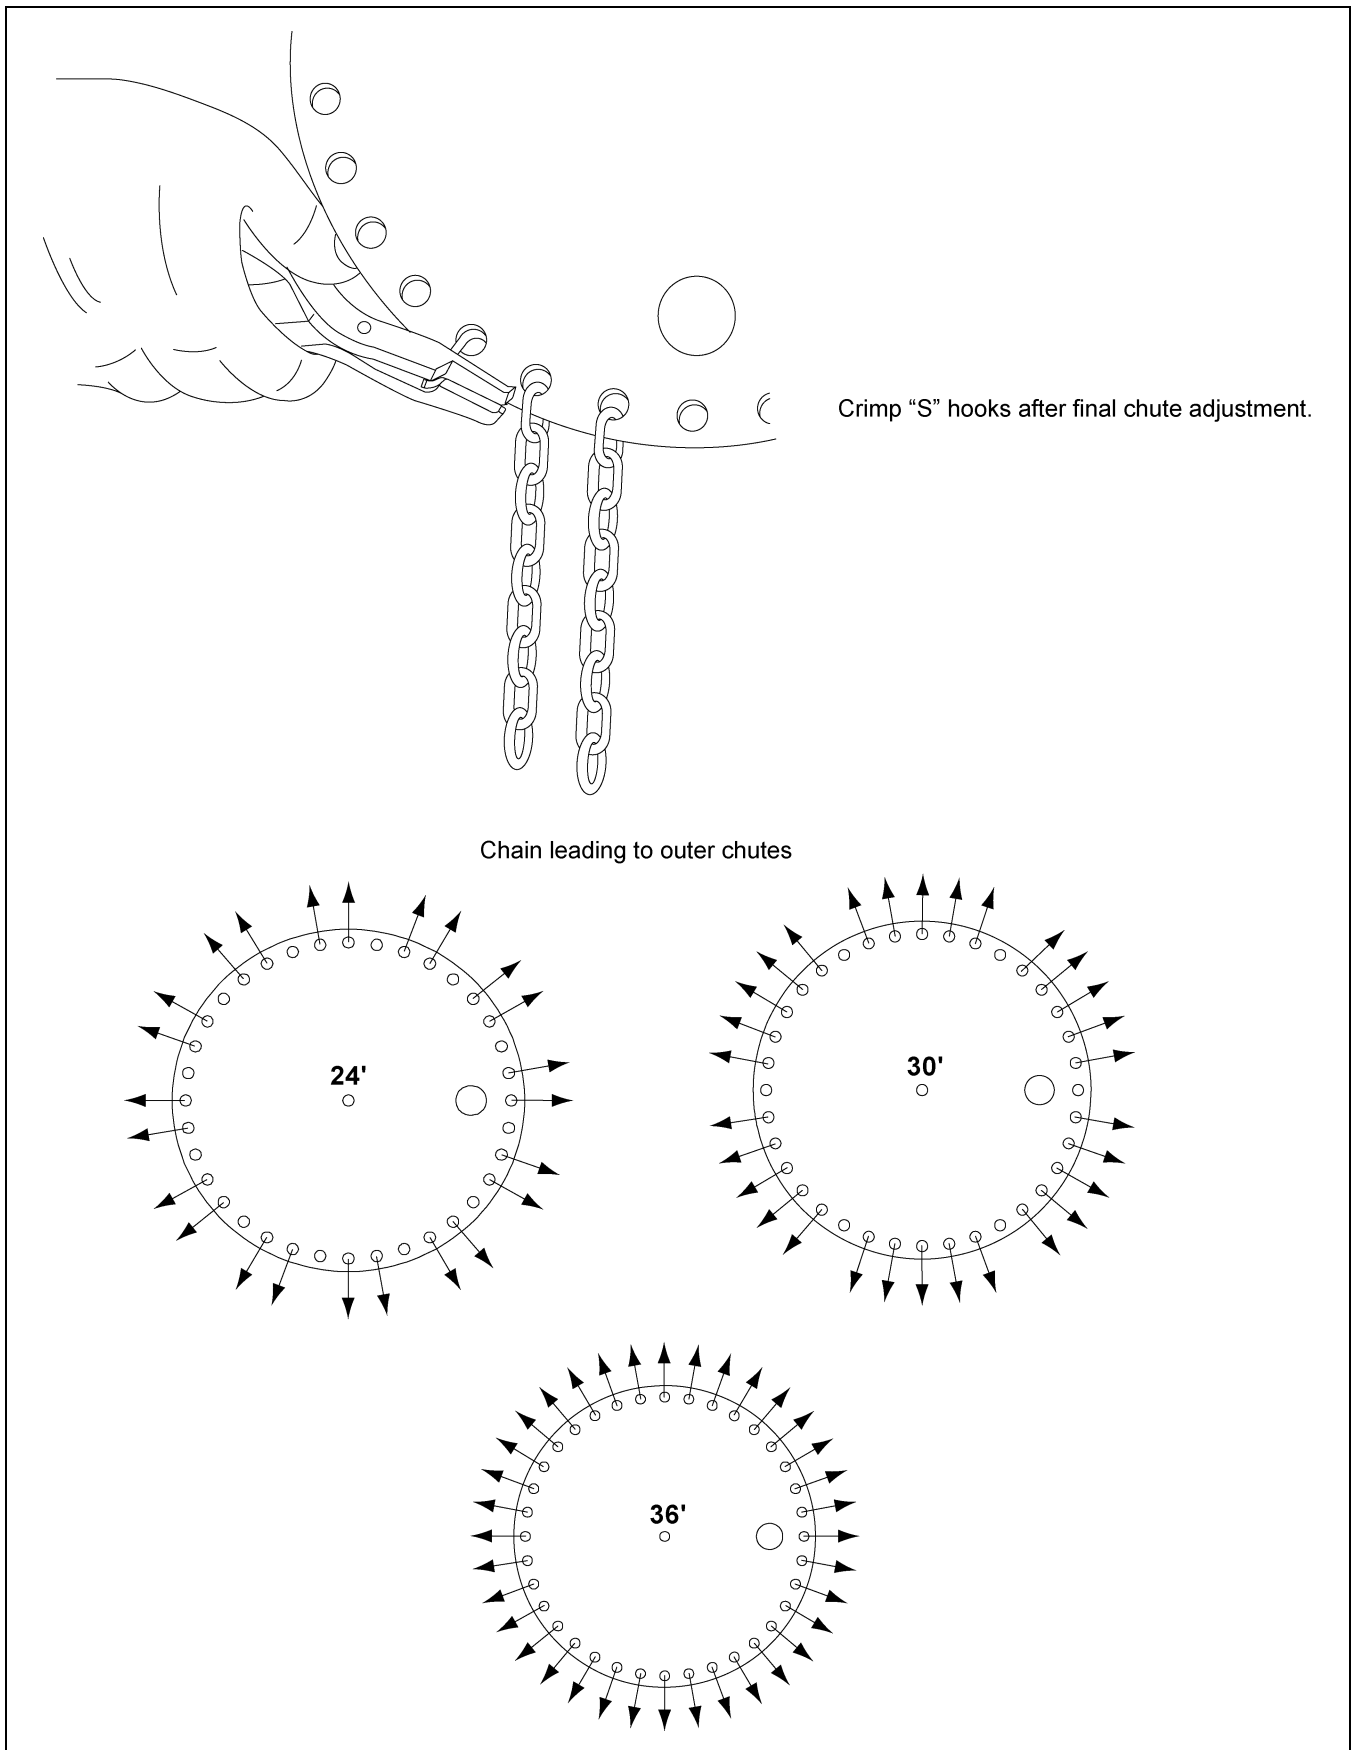

Figure 4C
1. The chain (C) is connected to a cable with a turnbuckle (D). The cable travels up the outside of the bin to the chute pulley on the bin eave and goes through the sidewall sheet into the bin to the center collar and down to the chain plate. (See Figure 4C on Page 14.) The plate is connected to the chutes via chains. The controller retracts the cable to close the chutes or extends the cable to open the chutes.